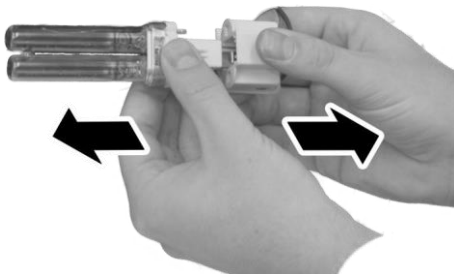

Fig. 35: Pulling out the UV lamp
5. Pull the old UV lamp out of the holder (Fig. 35).